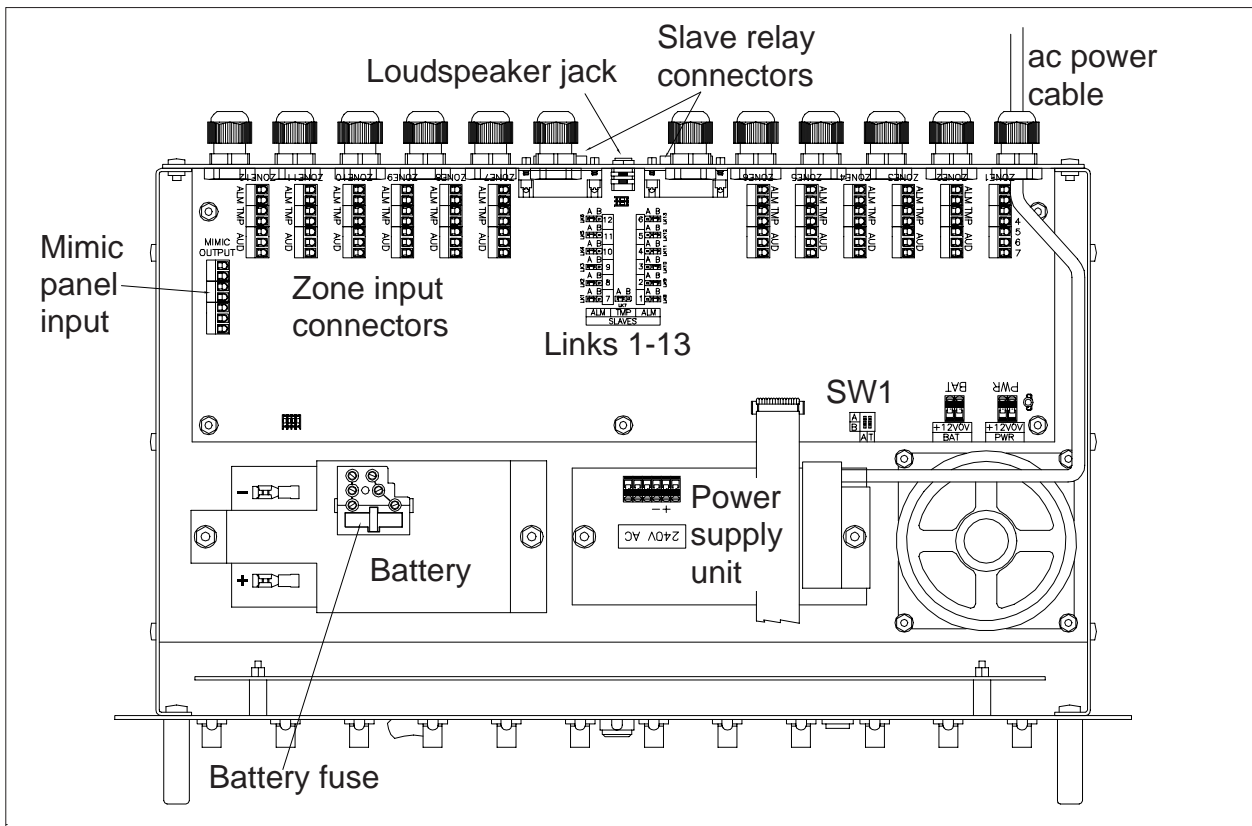

Figure 5
In addition to the external operator controls and indicators, there are also controls and link options provided within the case of the unit which determine certain aspects of the system operation. Refer to Figure 5.
3. Identify the demountable terminal block for zone 1 at the right-hand side of the main PCB and carefully remove it from the PCB pins. Refer to Figure 5.